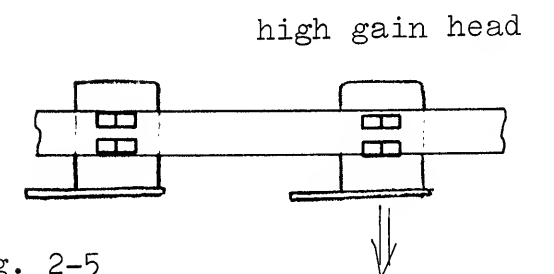

Fig. 2-5
b) If there is a level difference between playback heads, decrease higher output by slightly moving it up/down to cause the head gaps miss the tracks. Two outputs should be equal in level (fig. 2-5).